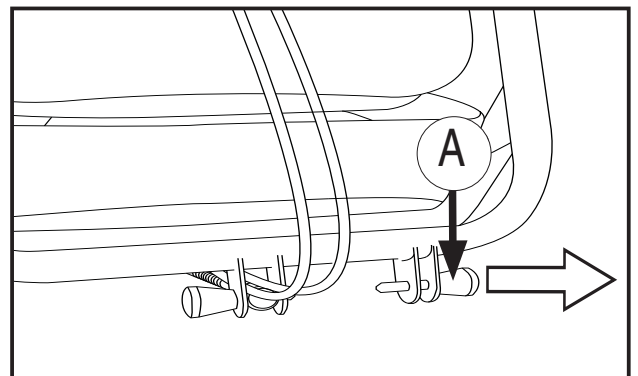

Figure 4
- Locate the wires between the brackets as shown in Figure 4. Place the bar for the adjustment mechanism into the bracket and replace the bolt